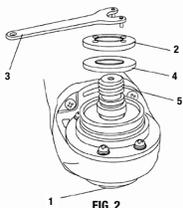
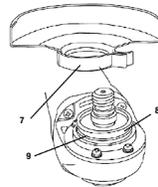

FIG. 2
FIG. 3
1. Depress the spindle lock button (1) and rotate the clamp nut (2) until the spindle locks (Fig. 2).
**NOTE:** If the clamp nut cannot be loosened by hand, use the wrench (3) provided.
3. Remove the disc flange (4). It will simply pull off the spindle (5).
5. Slide the guard clamp (7) over the spindle housing (8) until the blade guard locating detents mate with the groove (9) in the spindle housing (Fig. 3).